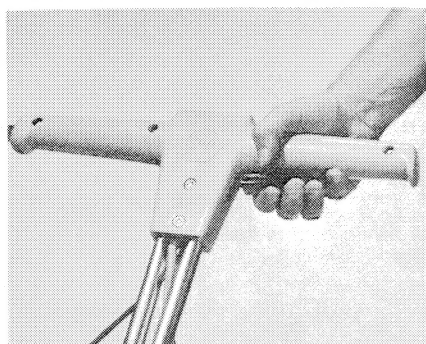
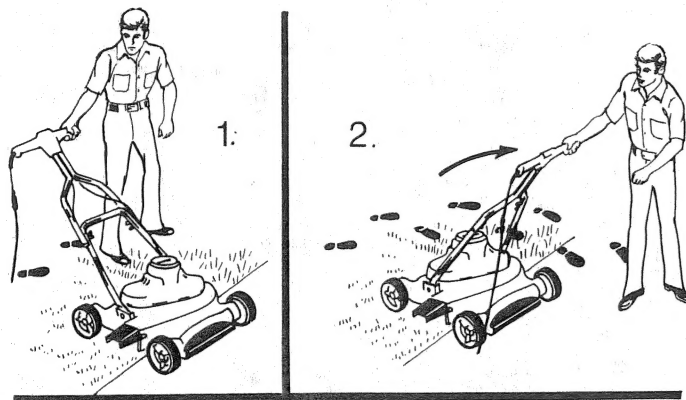
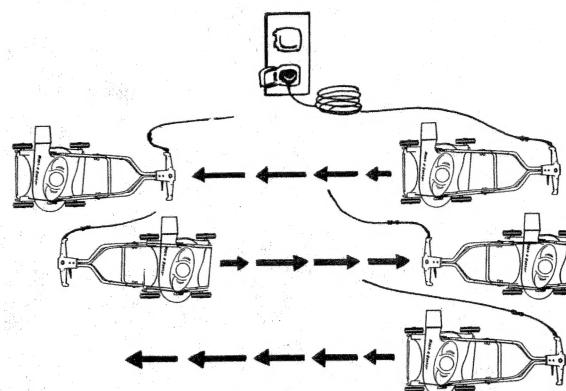

FIGURE 16
FIGURE 17
FIGURE 15
3. Begin mowing in the area closest to the outlet and mow in a back and forth manner (Figure 15). When you reach the edge of the lawn, do not turn the mower around. Instead, pull the safety latch lever up (Figure 16) and move the handle up and over the mower, as you walk around the side of the mower opposite the discharge opening. After the latch is engaged, you can now push the mower in the opposite direction (Figure 17).